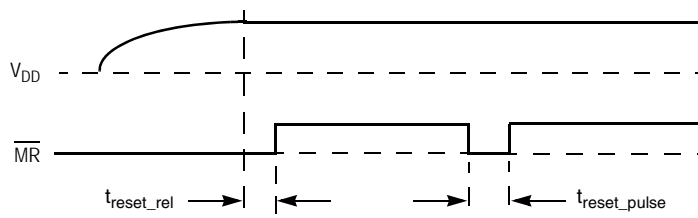

Figure 2.  $\overline{MR}$  Operation
**Figure 2** defines the release time and the minimum pulse length for MR pin. The MR release time is based upon the power supply being stable and within  $V_{DD}$  specifications. See **Table 9** for actual parameter values. The MPC9865 may be configured after release of reset and the outputs will be stable for use after lock indication is obtained.